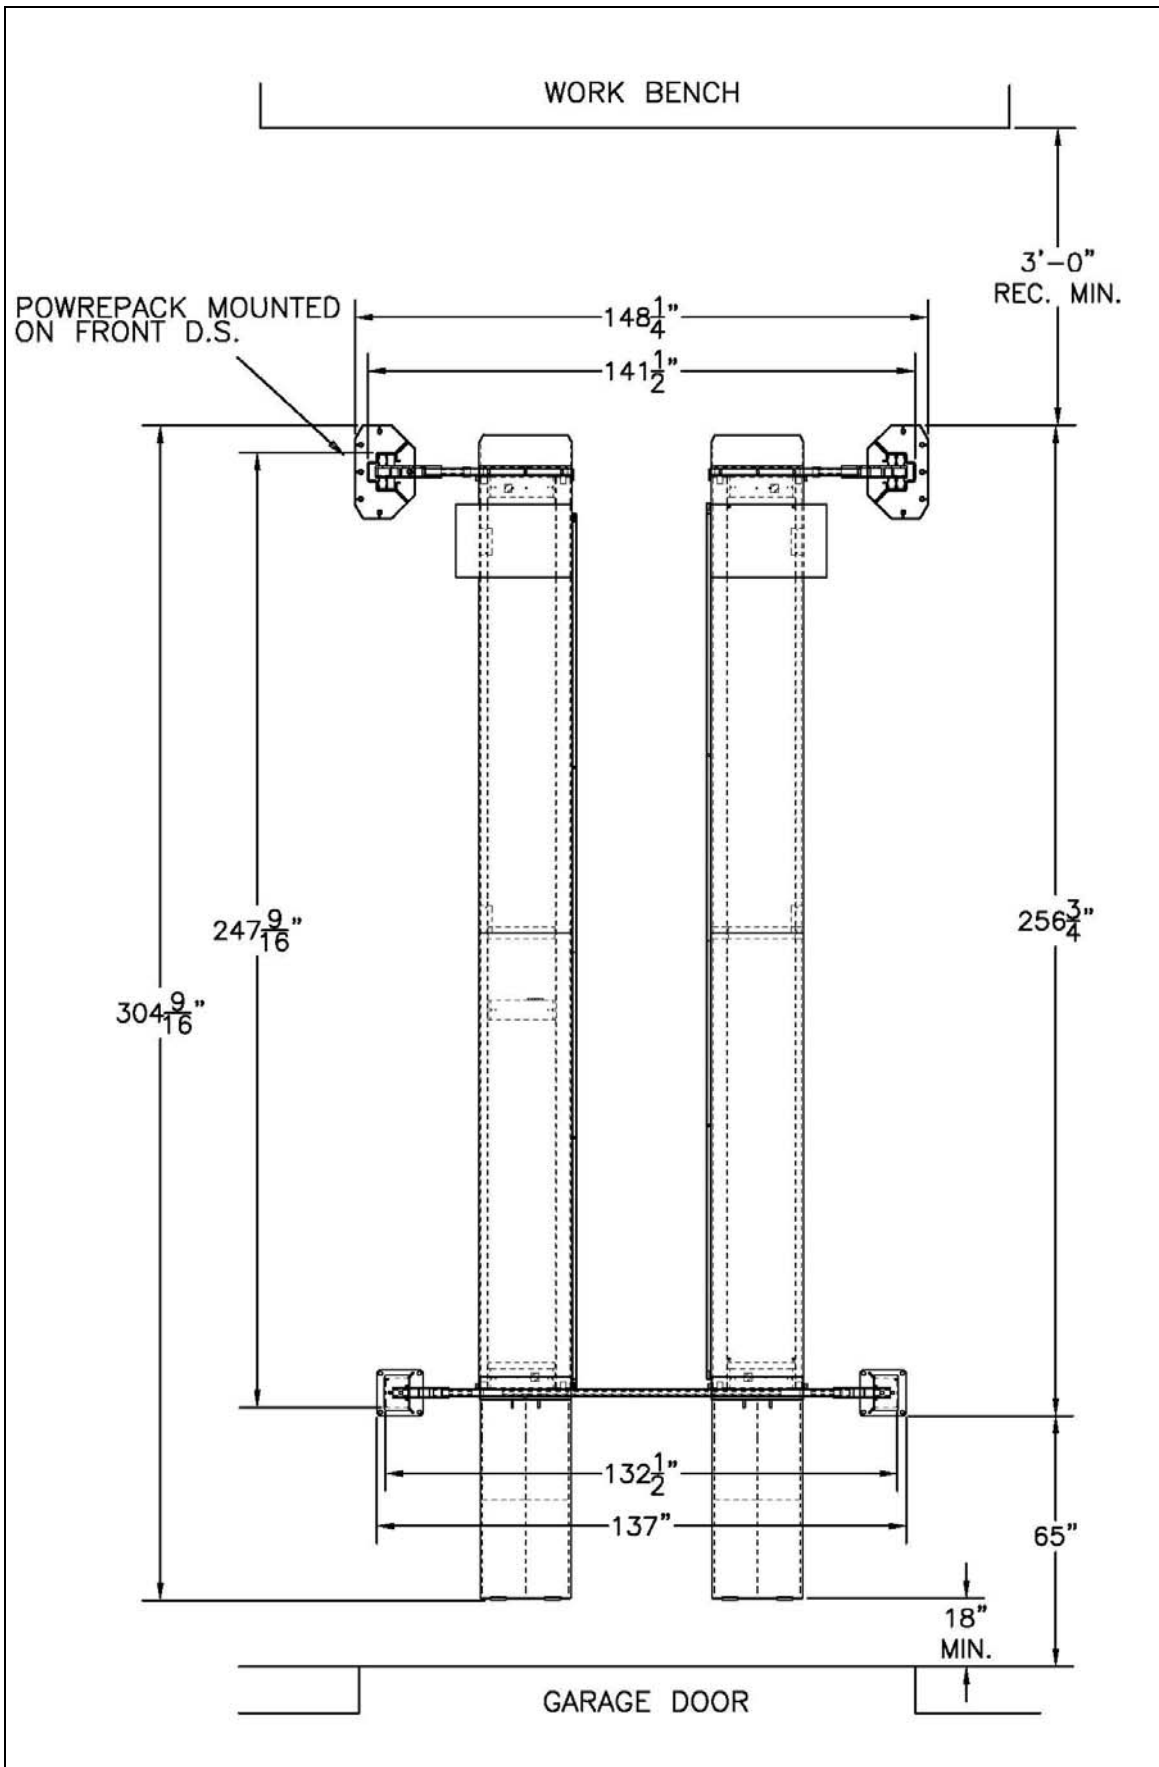
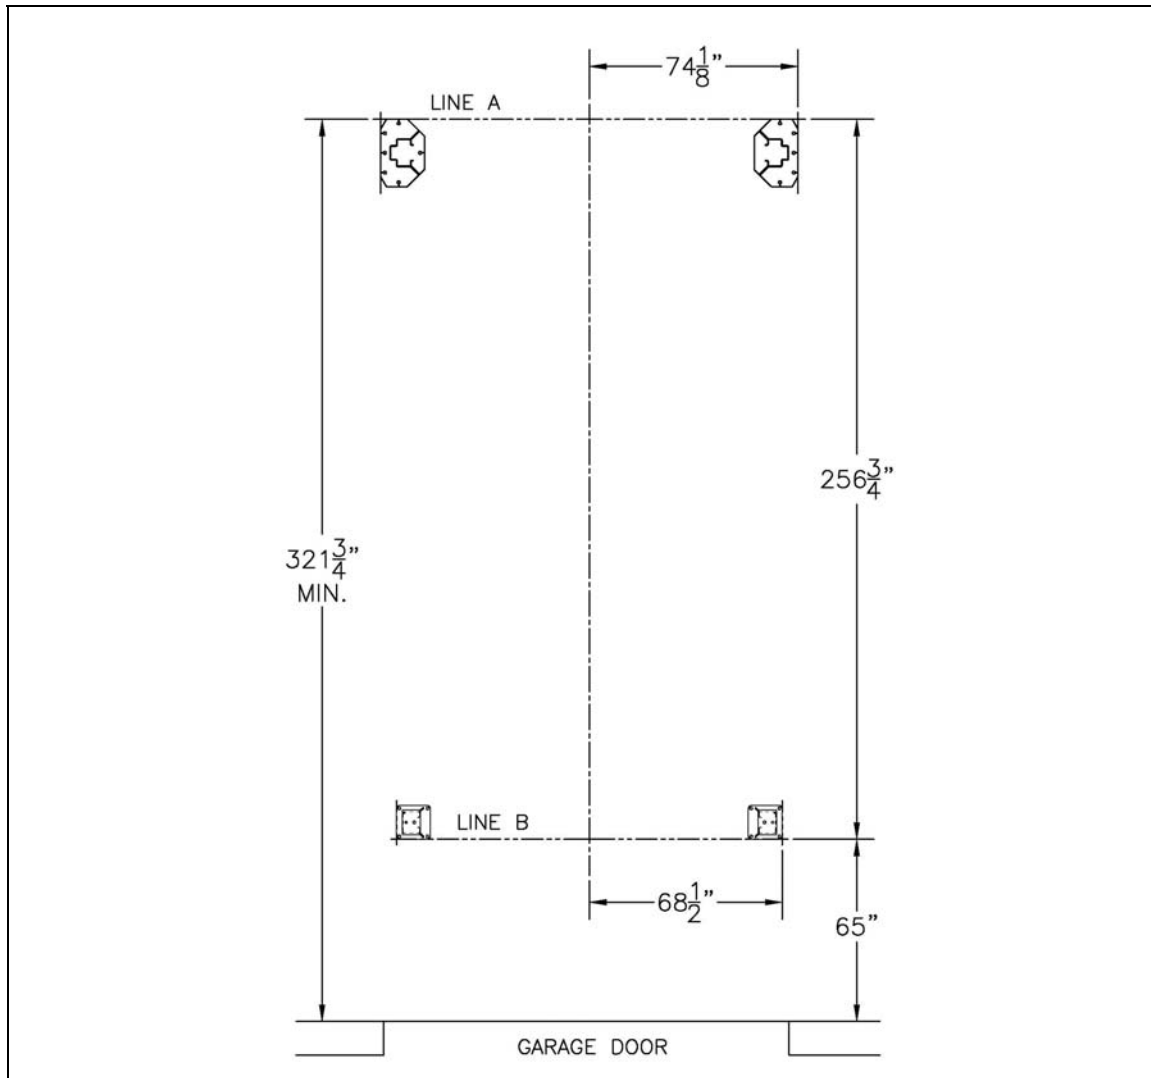

Figure 1. General lift specifications
Figure 2. Chalk line layout
- An outline matching the dimensions shown in Figure 2 will need to be marked on the floor. Refer to Figure 2 for outline dimensions. Refer to General Lift Specifications for overall lift dimensions. Figure 1.
- **Refer to Figure 2.** Make a chalk line parallel to the doorway at least 321-3/4" in from the doorway. Call this line "A". This will be the location for the front face of the front posts baseplate.
- Stand front towers up and position as per bay layout. See Figure 1 and Figure 2.
- Stand rear posts into position according to Figure 1 and Figure 2.
- Install the threaded stud end of the cables through the top of the post. Use a 7/8" flat washer, and two (2) 7/8"-14 UNF hex nuts with cable spacers as required, to compensate for uneven floors.